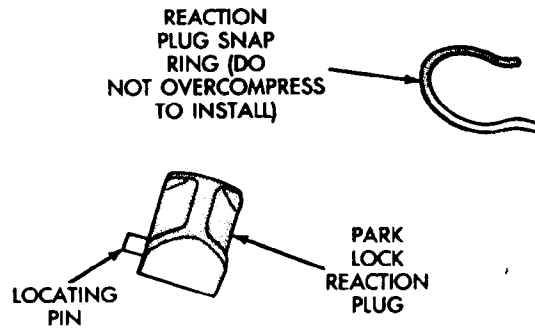

Fig. 69 Reaction Plug Locating Pin And Snap Ring
- (13) Install park lock reaction plug. Note that plug has locating pin at rear (Fig. 69). Be sure pin is seated in hole in case before installing snap ring.